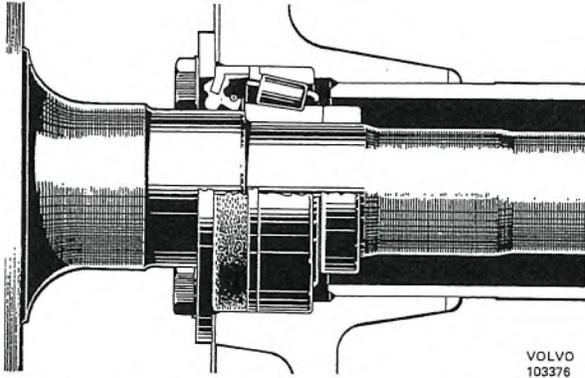

Fig. 4-126. Drive shaft journaling
The outer end of each drive shaft is journaled in a taper roller bearing. Bearing clearance is not adjustable but is determined by the construction of the bearing, see Fig. 4-126. There is an oil seal on the outside of the drive shaft bearings.
5. Fill the space between the lips on the new seal with grease. Then place the seal on the drive shaft. Fit the bearing and lock ring. Turn the bearing correctly, see Fig. 4-126.